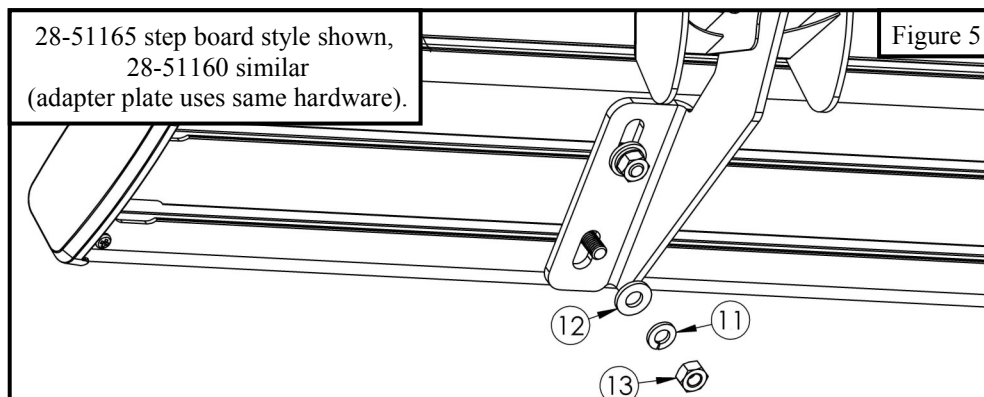

Figure 5
7. Loosely secure the step board onto each mount bracket using (2) M8 hex nuts, (2) M8 split lock washers, and (2) M8 flat washers (Items 11-13). See **Figure 5**.